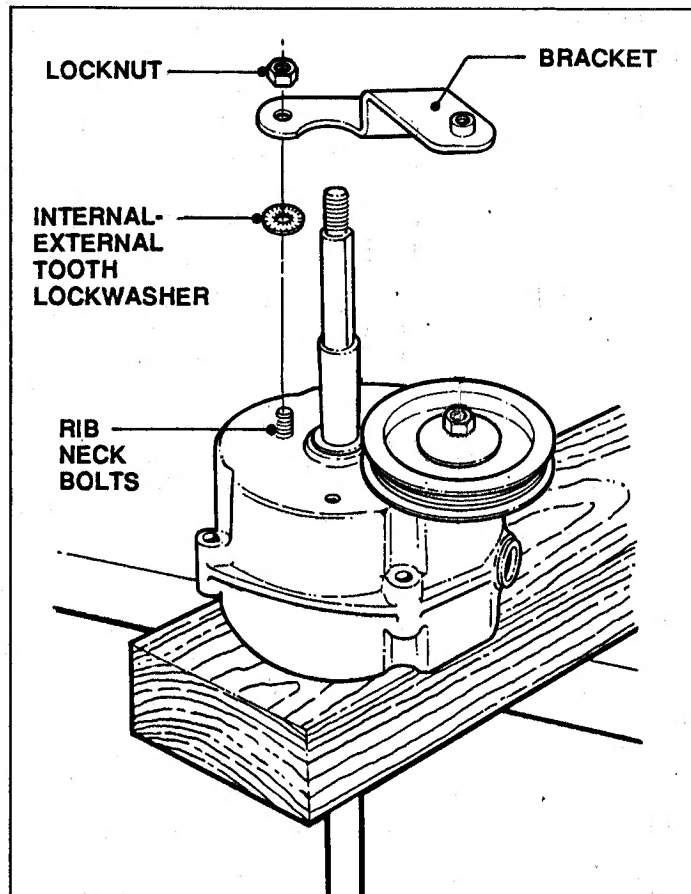

FIGURE 4.22
21. Place an internal-external tooth lockwasher over both of the rib neck bolts protruding from the right housing. See Figure 4.22.